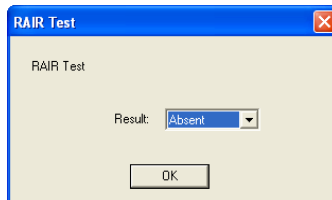

Figure 191: RAIR Absent or Present
3. Click **10 cc** again to mark the event stop. A popup window will appear, select whether RAIR is present or absent from the dropdown menu (Figure 191).
4. Click **RAIR** again to mark the stop event. A popup window will appear, select whether RAIR is present or absent from the dropdown menu (Figure 191).